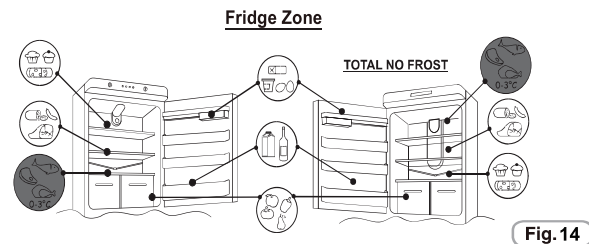
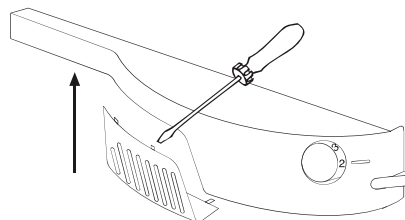

Fig.14
Fig.21
- To maintain the best flavour, nourishment and freshness of foods, it is advisable to store them in the refrigerator compartment as shown in fig.14 below, making sure to wrap them in aluminium or plastic sheets or in appropriate covered containers to avoid cross-contamination.
To replace the lamp bulb, place the thermostat knob on 0 and disconnect the power cord. Remove the protective cover (fig. 14), replace the bulb with a power rating analogous with that indicated on the protective cover.(Fig.21)